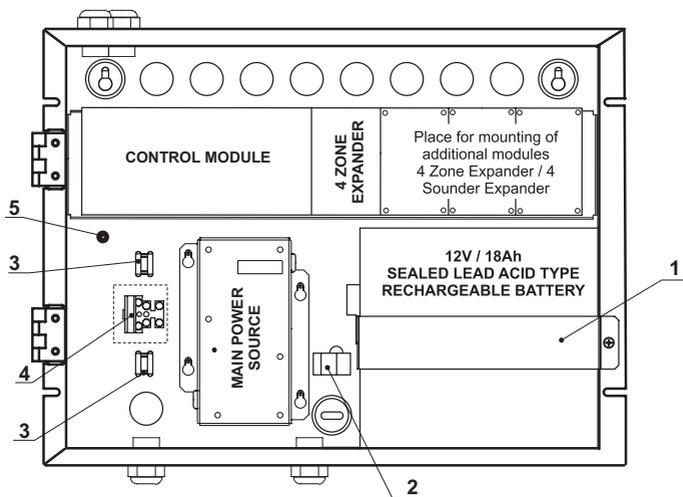

Figure 9.
- Position the battery and secure it with the clamp - Positon 1, Figure 9.